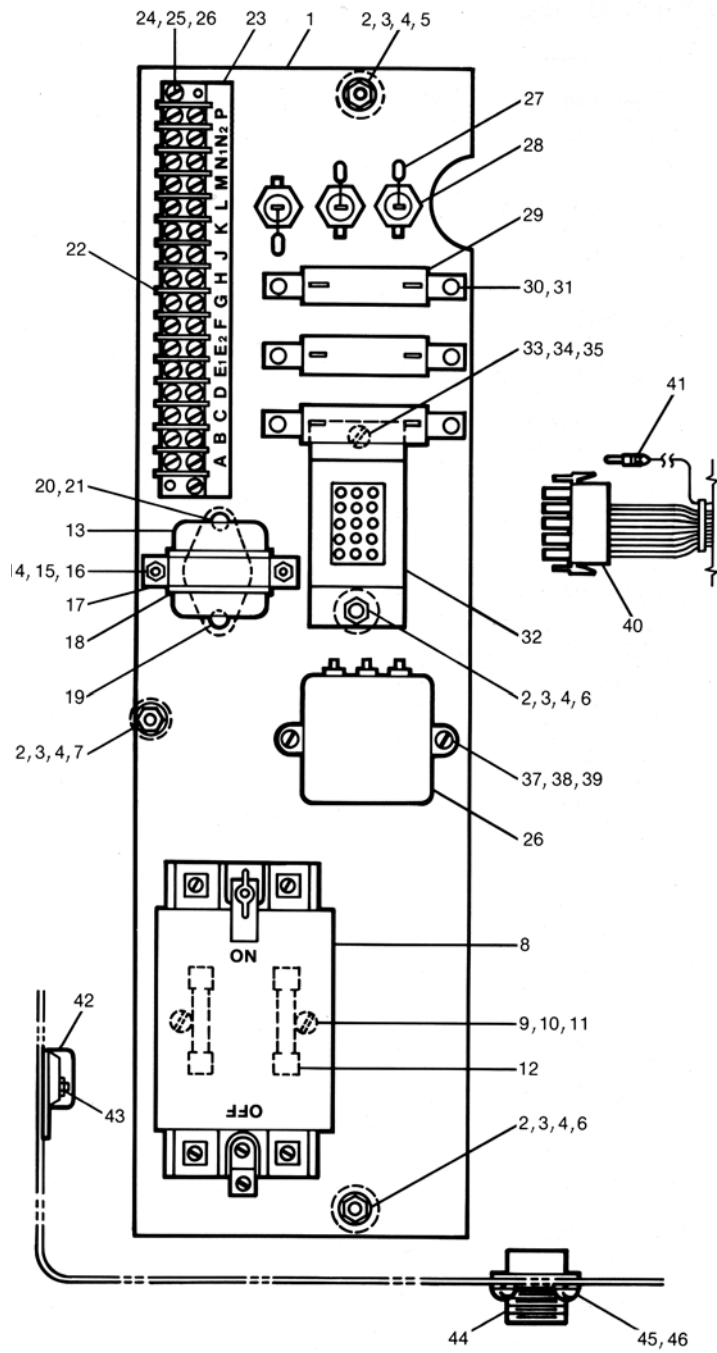

Figure 33. Panel board and wiring parts group
**Operating mechanism electrical parts group (Figure 33)**